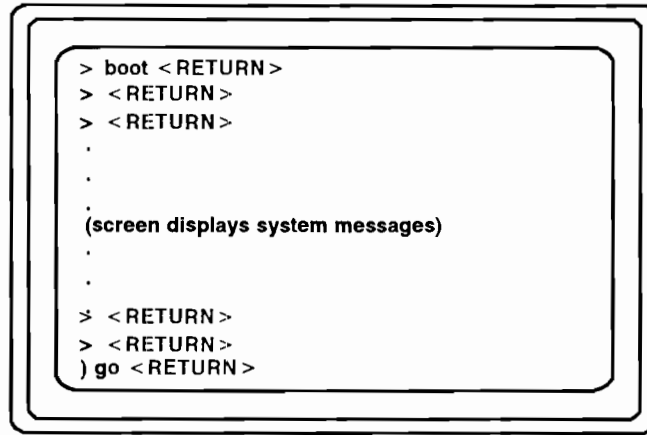

Figure 10-8. Booting the Operating System
4. Now boot the operating system by entering the commands shown in Figure 10-8.